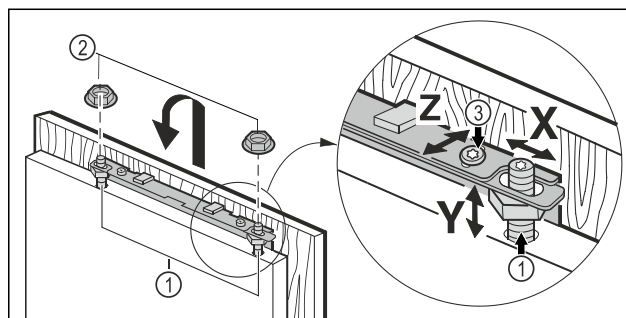

Fig. 44
- Hang the unit door on the adjustment bolts Fig. 44 (1) and screw the lock nuts Fig. 44 (2) loosely onto the adjustment bolts.
- Align the height Y and lateral inclination of the unit door: Set the adjustment bolts Fig. 44 (1) with a screwdriver.
- Tighten the lock nuts Fig. 44 (3).